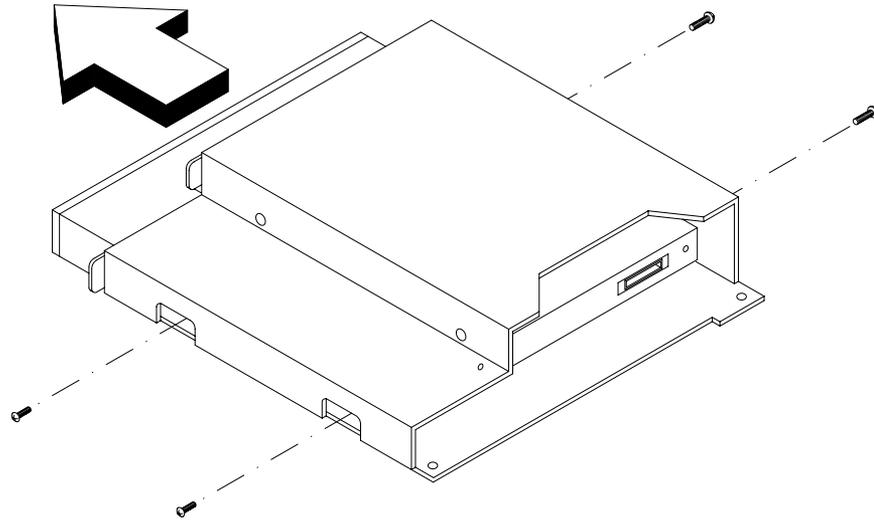

Figure 2-33 Removing the CD-ROM Drive from the Drive Module
3. Remove four screws, two on each side of the drive module, as shown in Figure 2-33.
4. Gently pull the drive out of the drive module as shown in Figure 2-33.